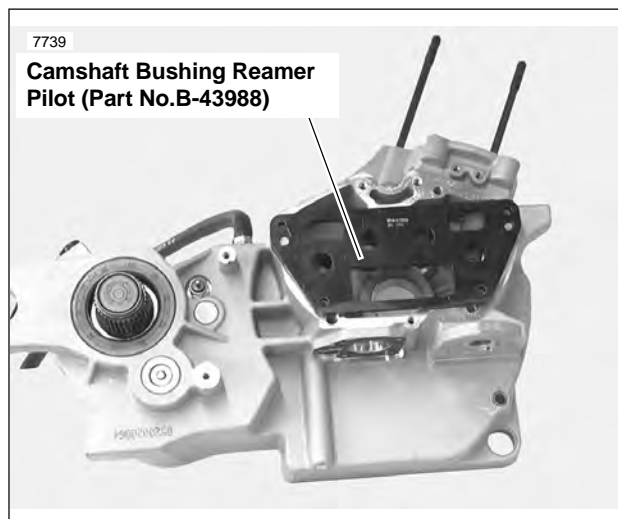

Figure 3-107. Reaming Cam Gear Bushing in Right Crankcase Half
2. See Figure 3-107. Position CAMSHAFT BUSHING REAMER PILOT (Part No. B-43988) onto gearcase side of crankcase half; upper right and lower left indexing holes in pilot must be placed over dowels in crankcase half. Insert two bolts (supplied with pilot) through two remaining holes in pilot, and into threaded holes of crankcase half. Tighten bolts securely.